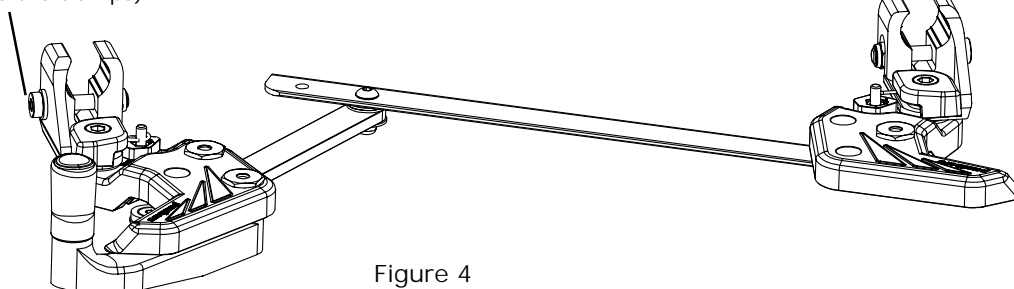

Figure 4
2. First loosen the fastening screw to enable you to separate the fastening clamps. You can do this with the enclosed T-key. **See figure 4.**